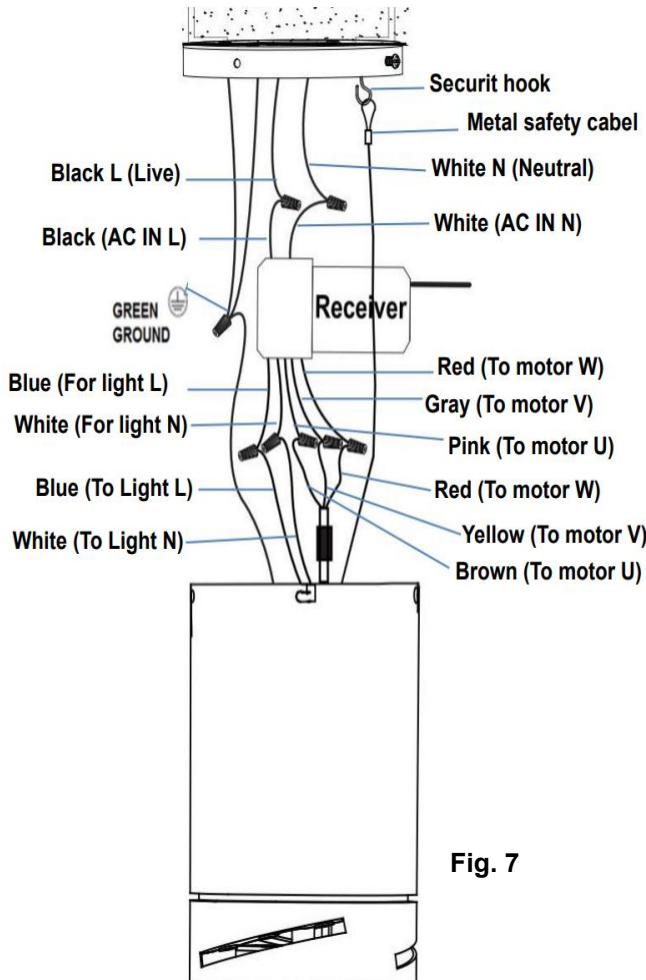

Fig. 7
- Complete the electrical wiring according to the 'ELECTRICAL WIRING DIAGRAM' section below. (Fig.7)
1. Connect the household live supply wire (black) to receiver input wire (black, AC IN L) as shown in (Fig. 7)